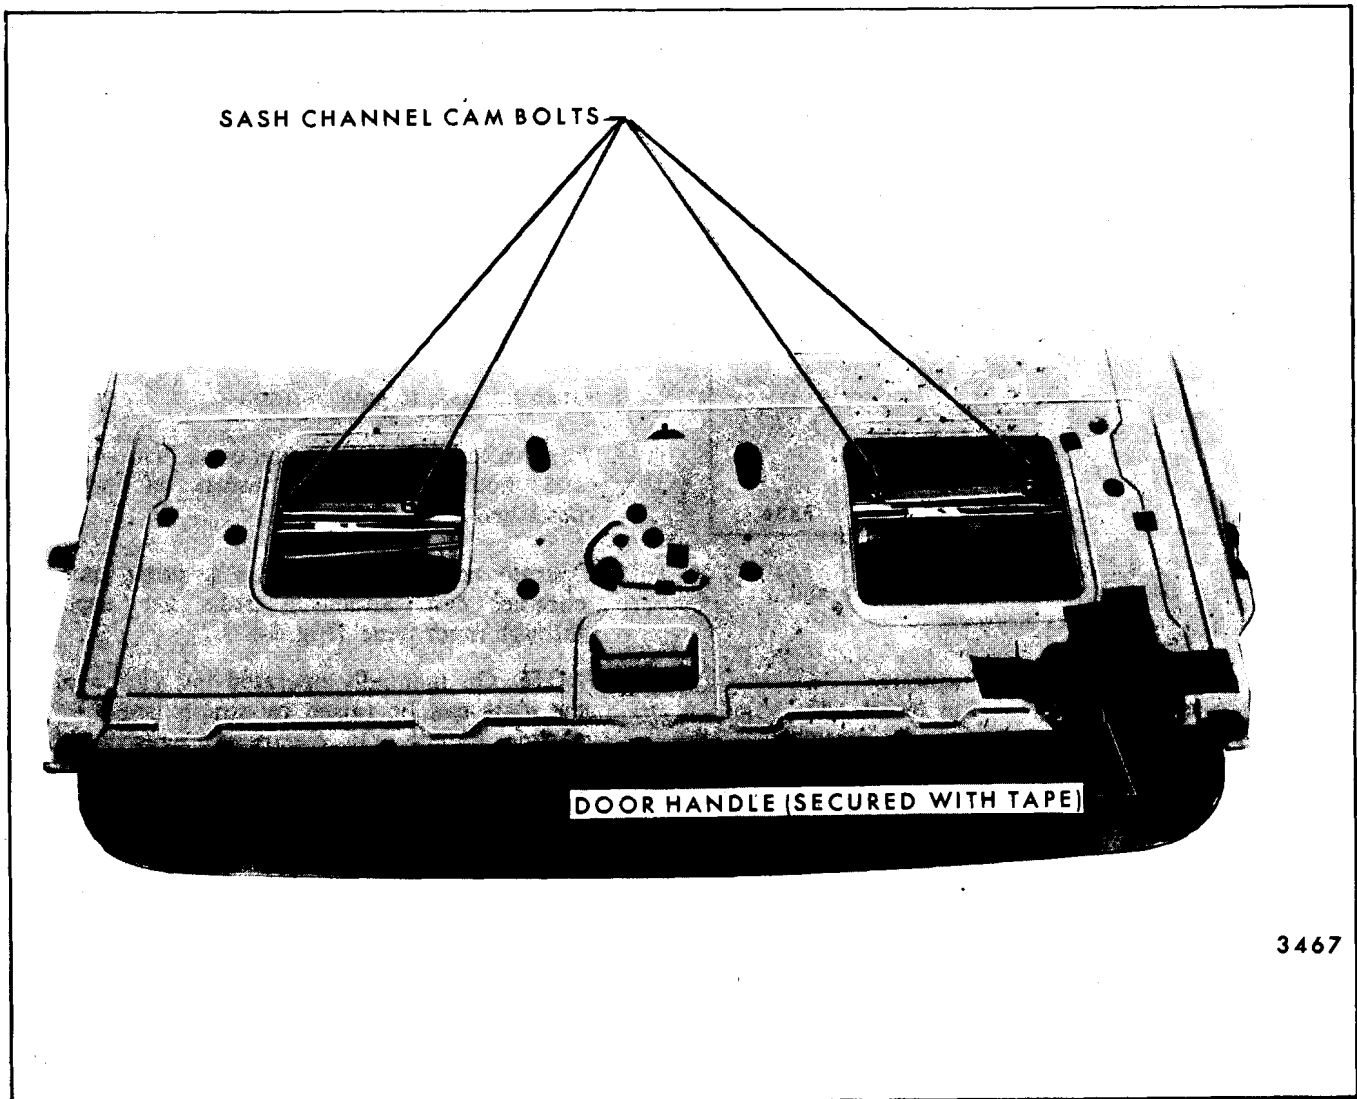

Fig. 9-41-Dual Acting Tail Gate Window Removal
3. Operate tail gate window to a point that sash channel cam attaching bolts are accessible through inner panel (Fig. 9-41).
4. Remove right and left cam attaching bolts (Fig. 9-41). Slide cams free of regulator lift arm rollers and remove cams from tail gate.